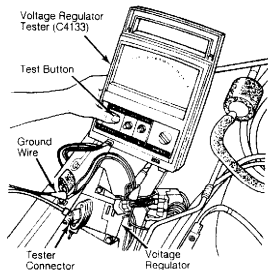

Fig. 8: Power Module 60-Way Connector
3) Display on readout box should be within one volt of battery voltage. If display reads "00", disconnect 60-way connector of control module and check voltage at terminal 41. See Fig. 8.